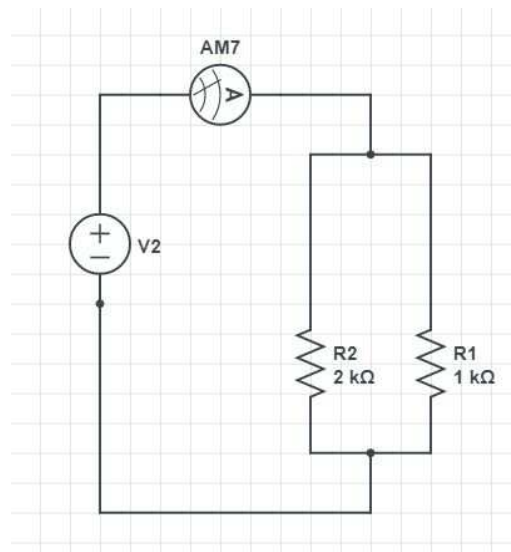
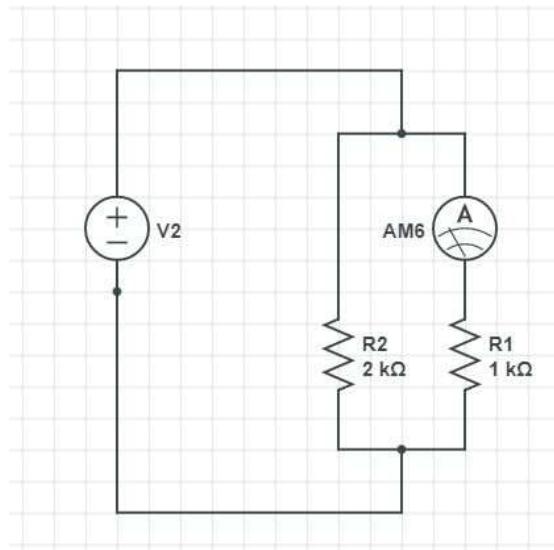

Fig. 13 First circuit for testing Kirchoff's Current Law.
Fig. 14 *Second circuit for testing Kirchoff's Current Law.*
3. If we build the circuits shown in Figs. 13 - 15 with a voltage source, a multimeter (measuring current) and a couple of resistors, we can test whether the total current from the source is equal to the sum of the currents flowing through the two resistors.
4. Measure the current from the source (using the multimeter, since at the end of Part 1 we decided the ammeter in the voltage source is not accurate) according to the circuit diagram shown in Fig. 13. Also measure the current through each resistor according to the circuit diagrams shown in Figs. 14 – 15. Record your results below.